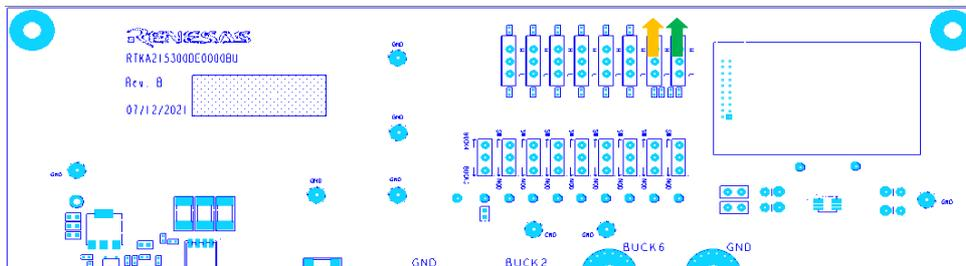

Figure 6. PWRON Switch
2. Switch PWRON on (see the orange arrow in Figure 6) to enable the regulators. Regulator output voltages are established in the sequence set in the relevant registers.